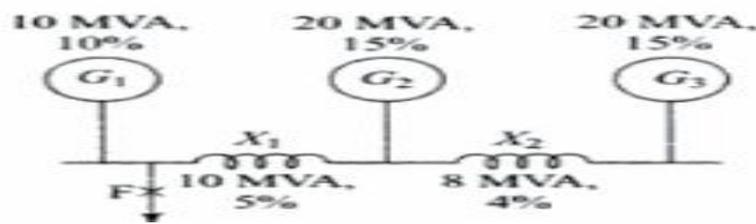

Fig. 2
- (b) An interconnected generator-reactor system is shown in Fig. 2. The base values for the given percentage reactances are the ratings of the individual pieces of equipment. A three-phase short-circuit occurs at point F. Determine the fault current and fault kVA if the busbar line-to-line voltage is 11 kV. 8M
- (b) Simplify the following block diagram as shown in below figure.2 using block diagram reduction techniques. 8M